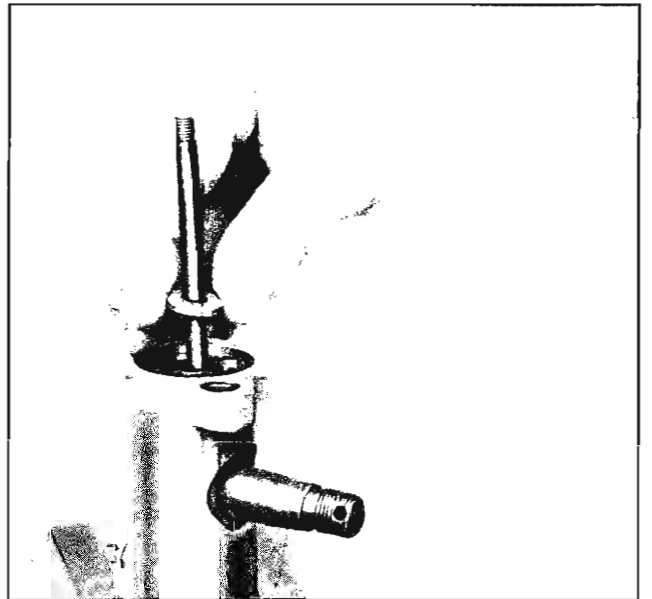

Fig. 9A-35 Removing Valve Shaft Washer
8. Remove plug to sleeve key (Fig 9A-36).